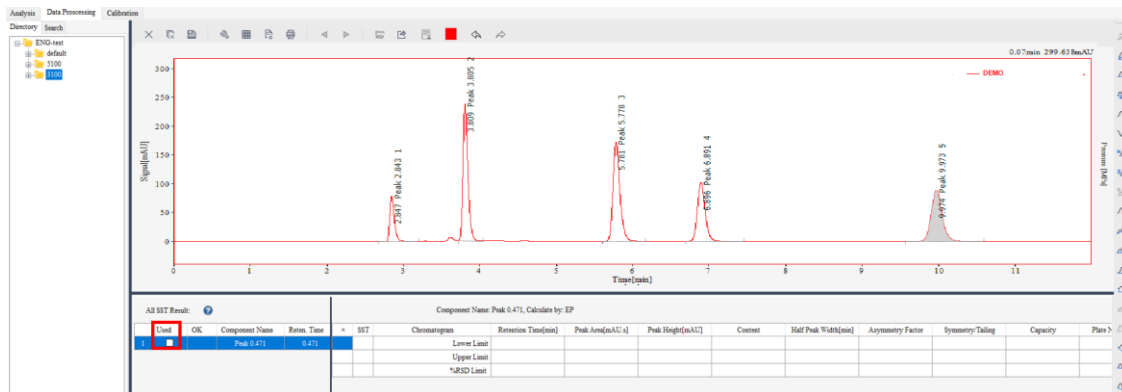

Figure 6-20 Use of calibration file
6) In the box under "Used", mark "✓", then the loaded calibration file is allowed to be used, as shown in Figure 6-20.